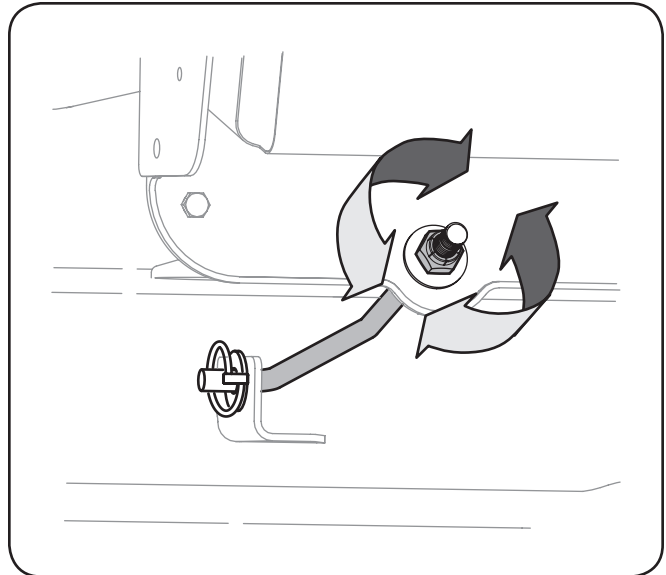

Figure 6-5
1. To *raise* the front of the deck, tighten (thread inward) the hex lock nut against the front hanger bracket. See Fig. 6-5.
2. To *lower* the front of the deck, loosen (thread outward) the hex lock nut, away from the front hanger bracket. See Fig. 6-5.